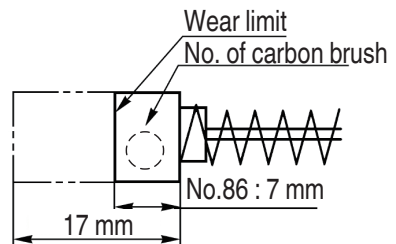

Fig. 23
4. Inspecting the carbon brushes: **(Fig. 23)**